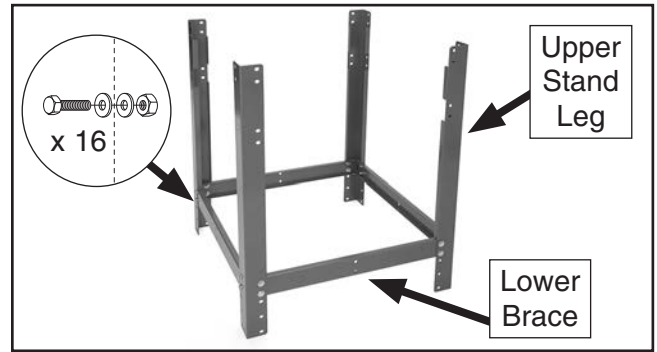

Figure 3. Initial assembly of upper stand legs connected to lower stand braces.
1. Connect upper stand legs with lower braces using (16) $\frac{3}{8}$ "-16 x $\frac{3}{4}$ " hex bolts, (32) $\frac{3}{8}$ " flat washers, and (16) $\frac{3}{8}$ "-16 lock nuts (see **Figure 3**)—only finger-tighten for now.